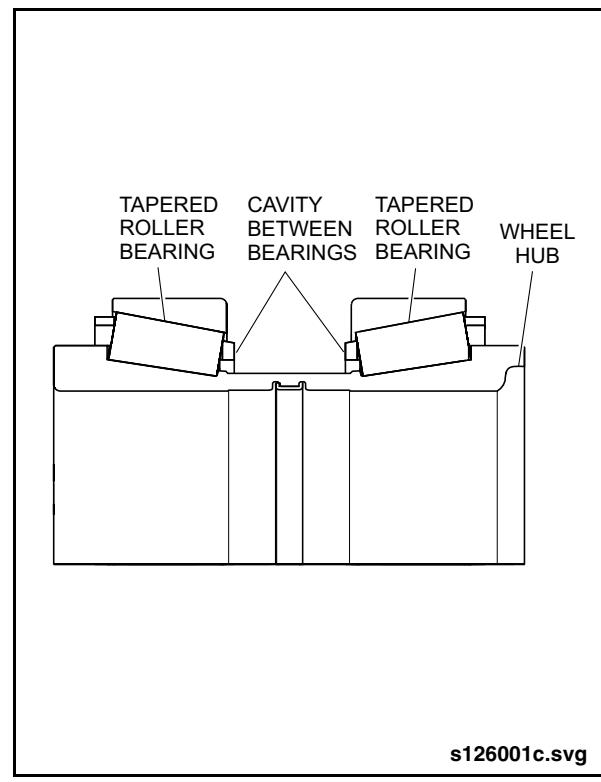

Fig. 2-25: Greasing Hub Unit Wheel Bearings
1. Apply high-temperature grease on the tapered roller bearings. See “Fig. 2-25: Greasing Hub Unit Wheel Bearings” on page 25. Refer to “Fluid & Lubrication Guide” in the Preventive Maintenance Section of this manual for a list of approved greases.